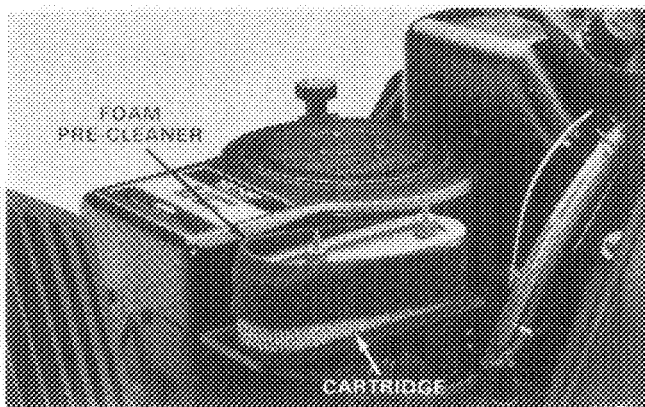

Figure 16
4. Remove (2) nuts from top of cartridge (Fig. 16).